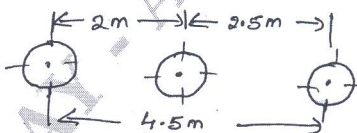

Fig.Q3(c)
- A 3-phase, 50 Hz, 66 kV overhead conductor are placed in a horizontal plane as shown in Fig.Q3(c). The conductor diameter is 1.25cm. The line length is 100 km. Calculate :